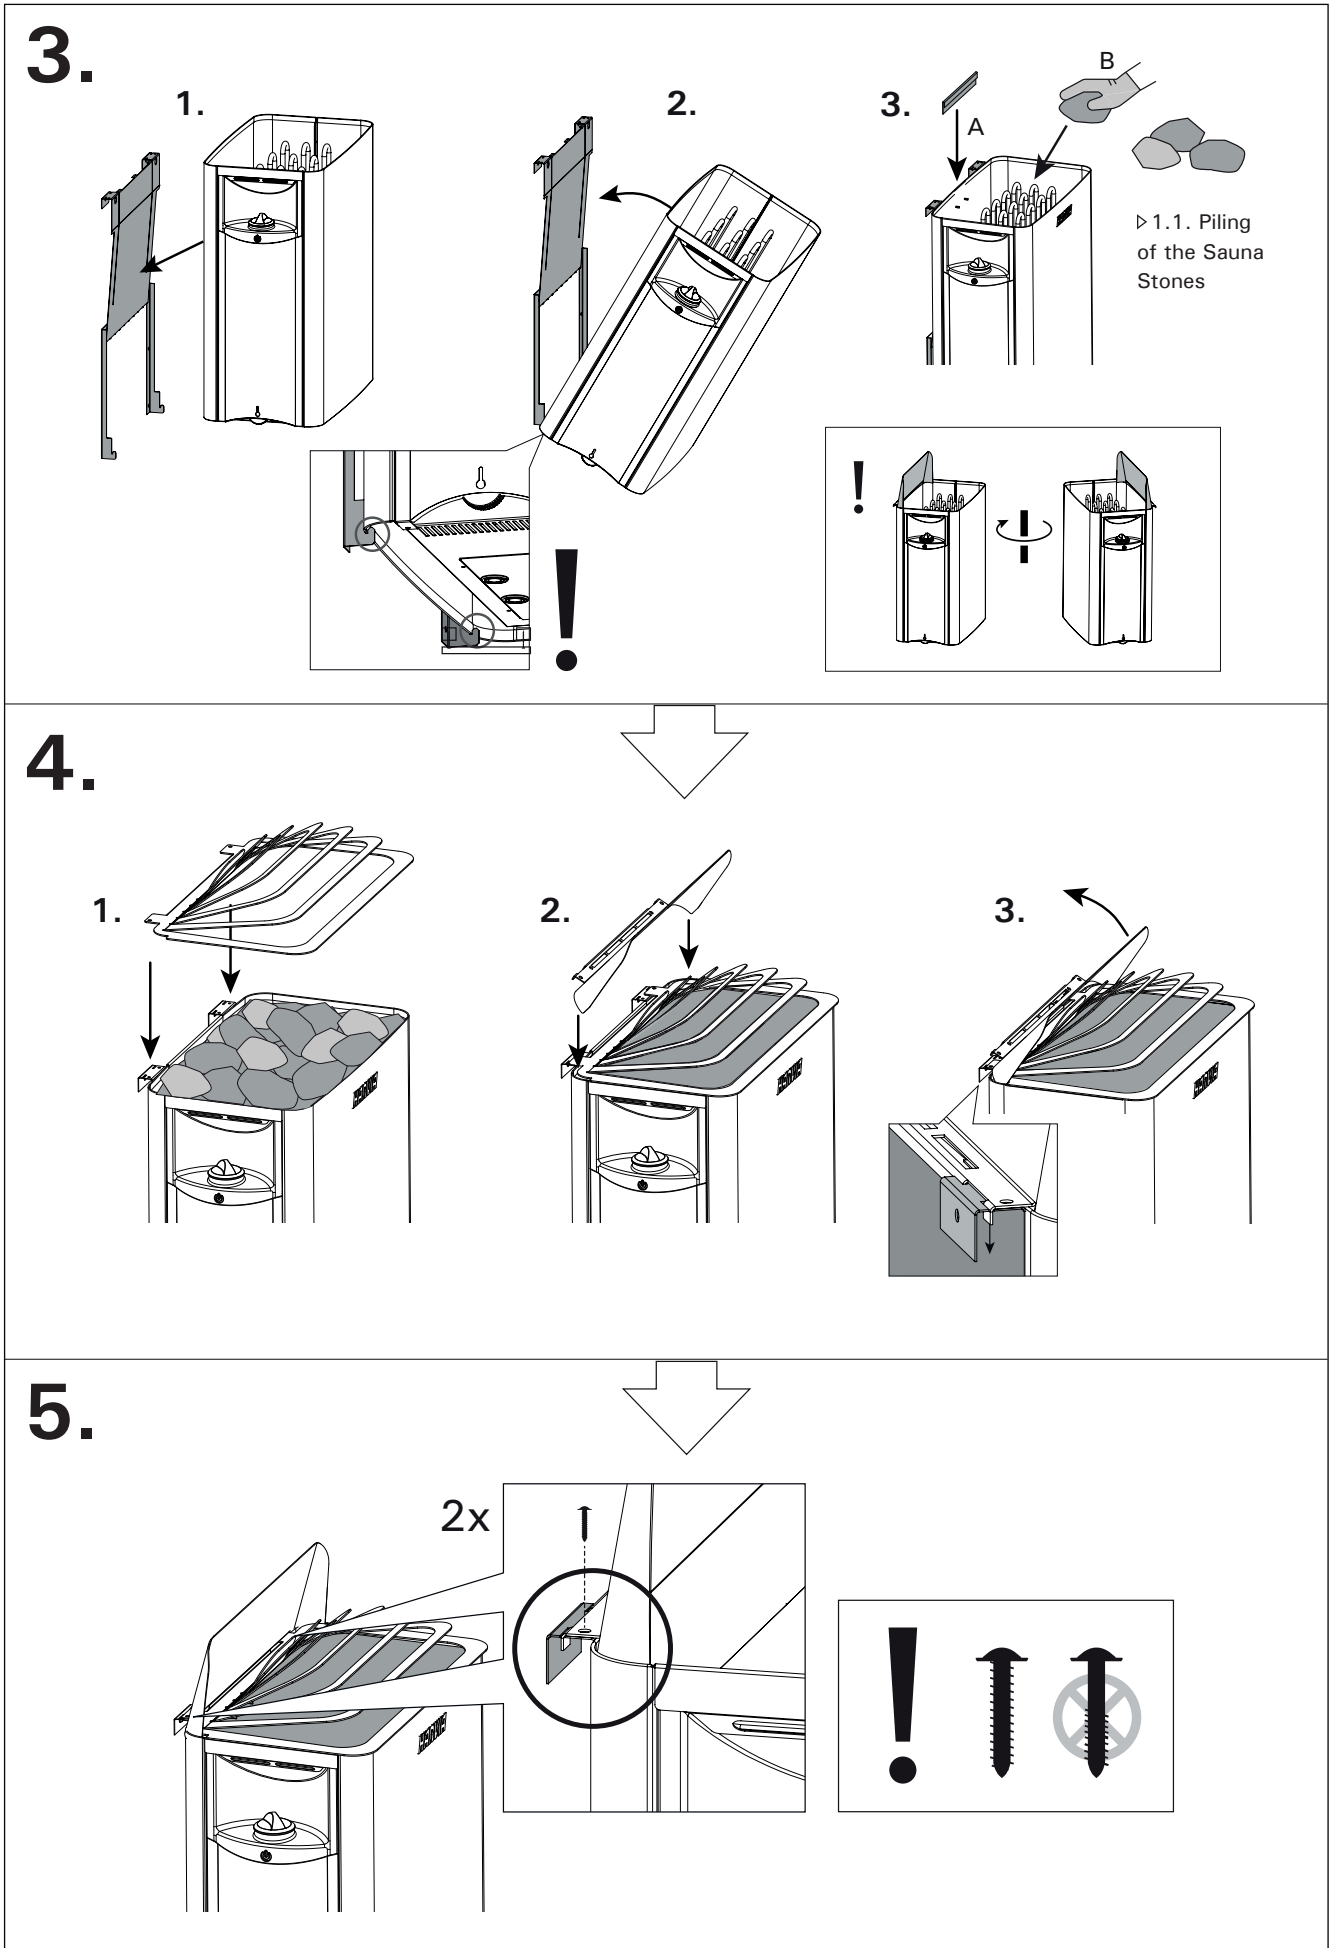

Figure 7. Installing the wall-mounting device (2.) and the heater (3.-5.)
Prior to installing the heater, read all the instructions for installation (figure 7), as well as checking the following points:
1. Connect the supply cable (fig. 7:1) to the heater.
3. Lift the heater into the mount and make sure it is centered (figure 7:3). Install mounting bracket (A) and pile the sauna stones (B) according to instructions (▷ 1.1.).
4. Install the safety guard (fig 7:4:1) and steam guide (7:4:2-3) to the heater and the wall mount.
5. Secure the heater to the wall mount by screwing two screws behind the steam guide (figure 7:5).